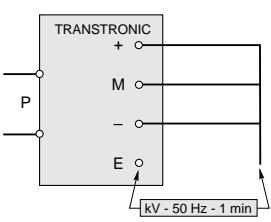

fig. 7
- S/screen (kV r.m.s. - 50 Hz - 1 min) - fig. 7